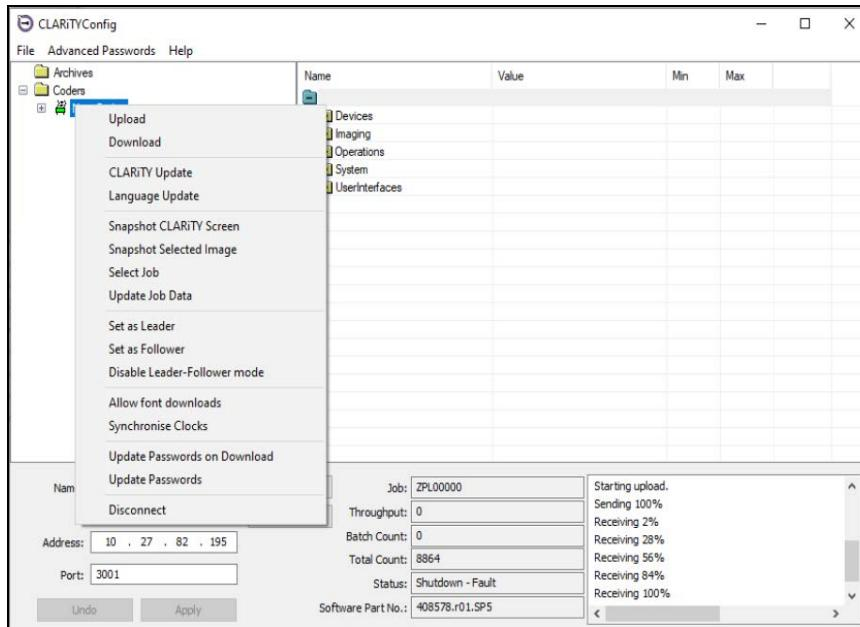

Figure 8-27: CLARiTY Config - Follower Disabling
- 2 Right click on the 'New Printer' icon when the icon turns 'green' and Select 'Disable Leader/Follower mode', from the list as shown in Figure 8-27.
- 2 Right click on the 'New Printer' icon when the icon turns 'green' and Select 'Multiple Machine Modes > Disable Multiple Machine Mode', from the list as shown in Figure 8-27.